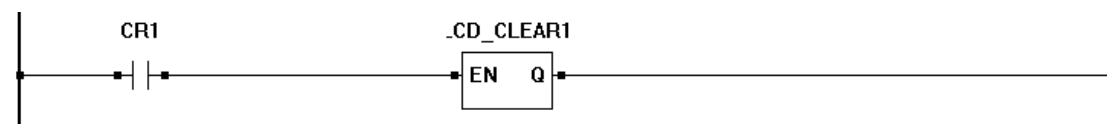

Figure 9-4
To clear the LCD display (blank all rows and columns), the LCD_CLEAR function block is used. The LCD_CLEAR will clear the display when it senses a rising edge on it's enable input (EN). Figure 9-4 shows an example program using the LCD_CLEAR function block.